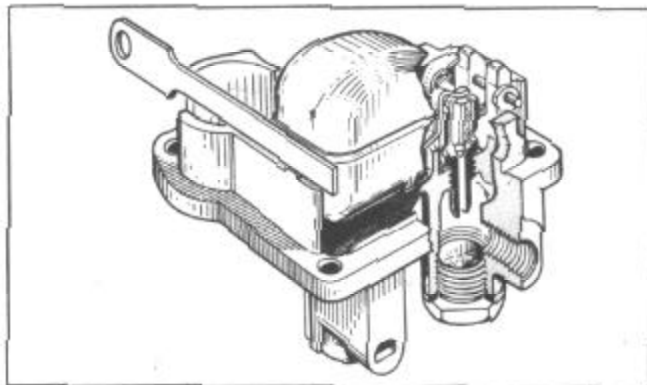

FIGURE 24
5. Install the needle, float and lever assembly, and float lever pin. Check float for dent s and wear on lip, and float pin for wear. Check bowl cover for wear in counter-shaft hole. Set float level to 1/2" by bending lip that contacts the needle. Do not bend float, Figure 24. Measure distance from projection on bowl cover to soldered seam of float, as shown.